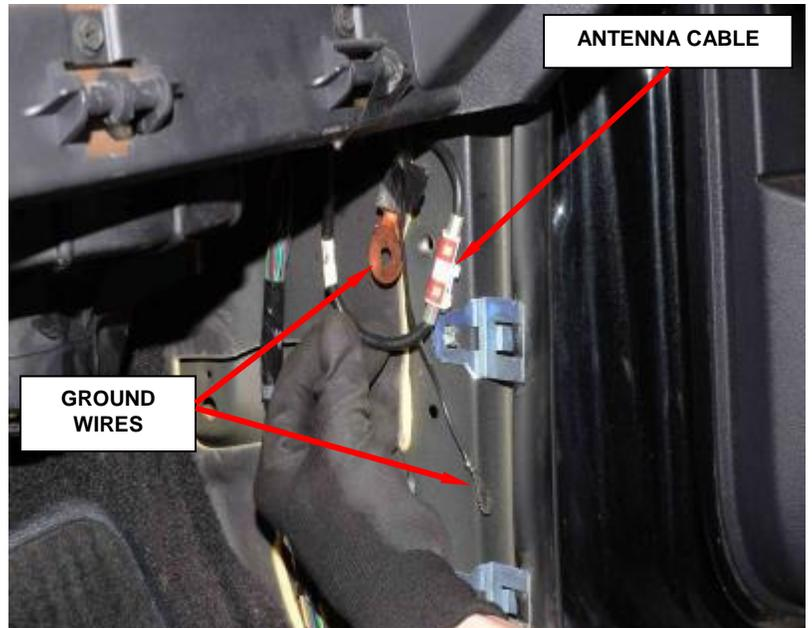
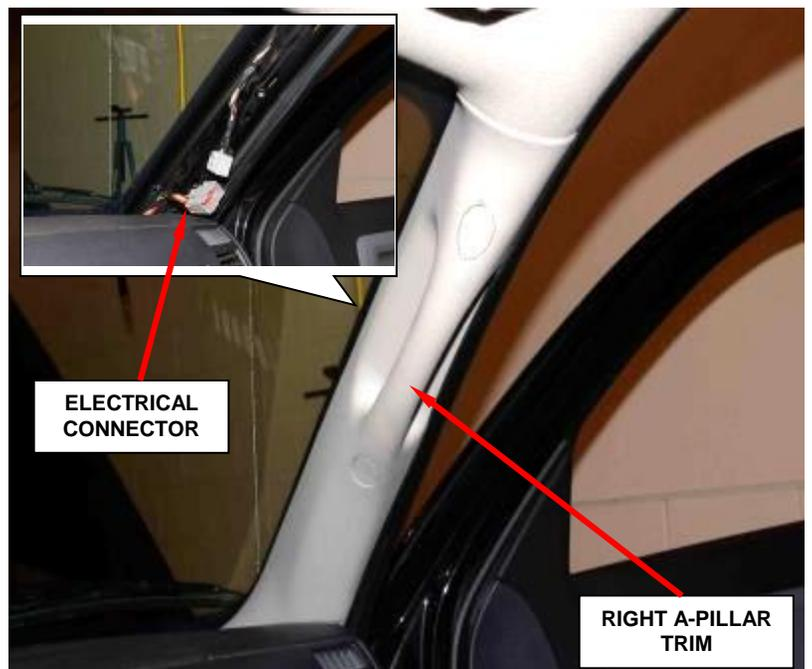

Figure 77 – Ground Bolt and Nut
Figure 78 – A-Pillar Trim (Right Side Shown)
26. Remove the bolt and nut and disconnect the grounds on the right A-pillar (Figure 77).
27. Disconnect the antenna cable (77).
28. Remove the right and left side A-pillar trim (Figure 78).
29. Disconnect the right side A-pillar electrical connector (Figure 78).